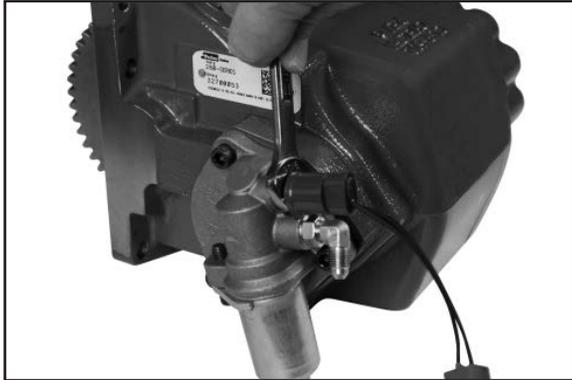

Figure 14
1. Install PTO pressure switch, part #379502, into port on Hydraulic Valve Cap. Torque between 120-140 lb-in [14-16 N-m] (**Fig. 14**).